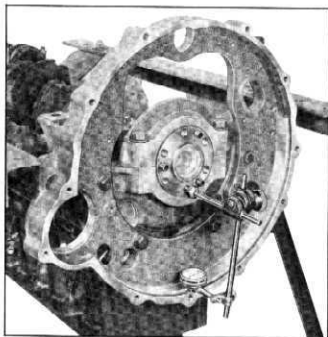

Fig. 61—Checking Bore Runout
5. Take readings at the 9, 12, and 3 o'clock positions, carefully lifting indicator button over each cutaway section of flange. The runout should not exceed .005" (fig. 61).